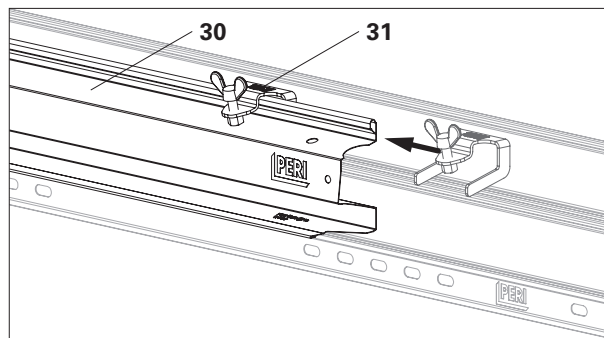
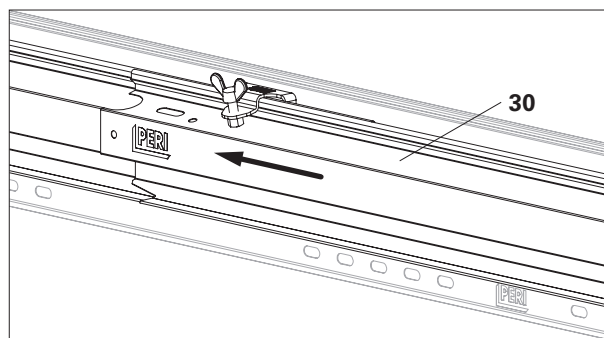

Fig. A5.06a
Fig. A5.06b
1. Slide the Toe Board Compensation UPY-L (31) onto the first Toe Board UPY (30). (Fig. A5.06a)
2. Slide the second Toe Board UPY (30) between the Toe Board UPY and Toe Board Compensation UPY-L in an overlapping position.
- The toe board is installed. (Fig. A5.06b)